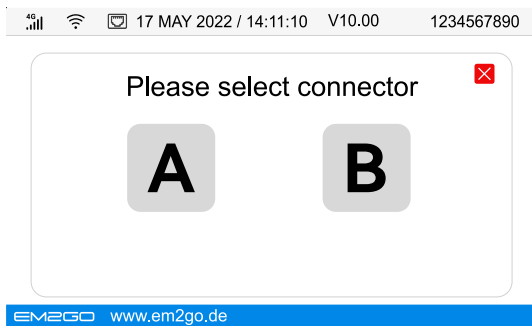

Fig. 6-2 Selecting the charging point
1. To use local load management, connect up to 16 charging stations by cable via Ethernet to a network switch or router (see section 5.1.4 and Fig. 6-2).